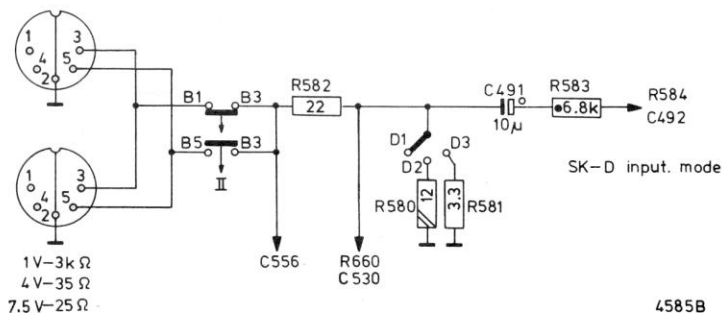

Fig. 2
- The input circuit is changed in accordance with Fig. 2.
- De ingangschakeling wordt gewijzigd volgens Fig. 2.
- Le circuit d'entrée est adapté à ces transformations, voir Fig. 2.
- Die Eingangsschaltung ist gemäss Abb. 2 geändert.
As from change code PL03 a different relay is used for production reasons. However, this is only temporary. As this temporarily used relay has no make-and-break contact, the circuit has been adapted in accordance with Figs. 2 and 3. The dimensions of the relay are also different. However, the p.c. board has been made compatible, so that both relays can be fitted. However, Service only supplies the relay with the make-and-break contact. However, the dimensions may still differ.